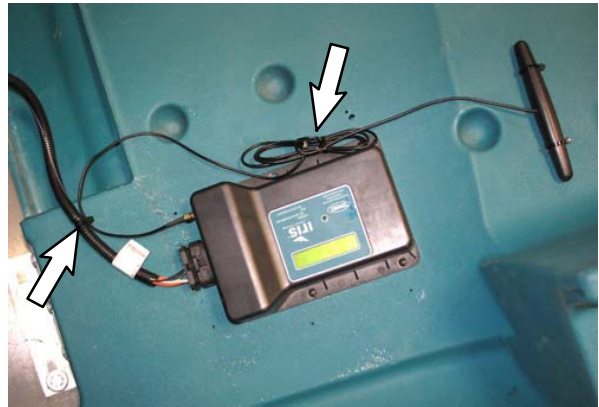

FIG. 15
15. Arrange the antenna (7) cable next to the telemetry module (1) and secure the telemetry harness (4) and antenna cable into the wire tie clip (5). (Fig. 15)